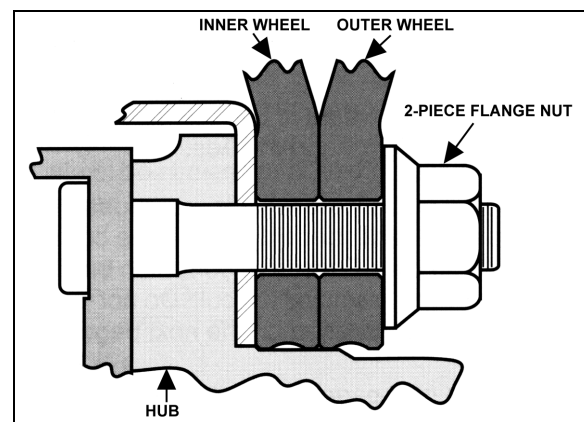

FIGURE 4: DRIVE AXLE WHEELS
1. Loosen a hex stud nut three turns (Fig. 4);